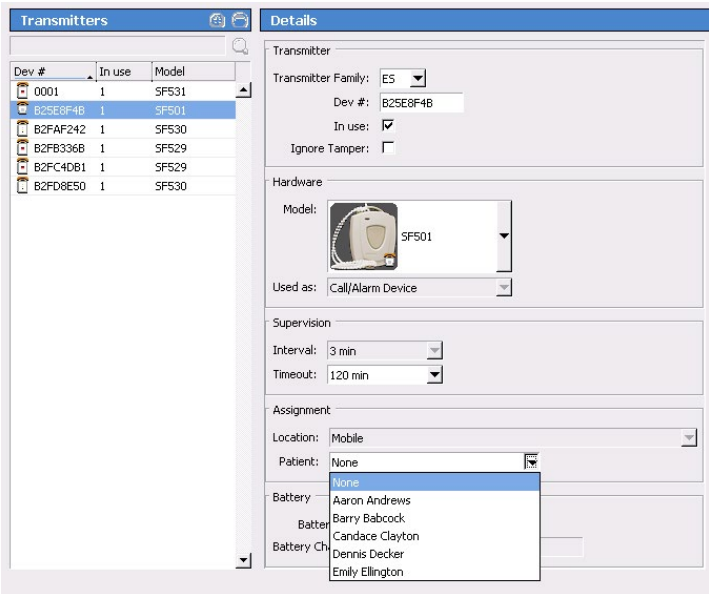

Figure 44: Config Tool Pendant Transmitter Assignment
2. In the page selection pane, choose **Transmitters** and select a pendant transmitter from the transmitters list in the Transmitters page, shown in Figure 44.